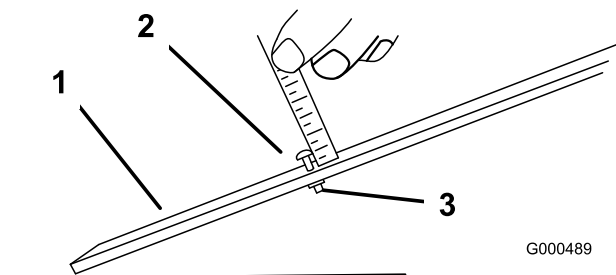

Figure 38
3. Loosen the nut on the gauge bar (Figure 38) and set the adjusting screw to the desired height-of-cut. The distance between the bottom of the screw head and the face of the bar is the height-of-cut.